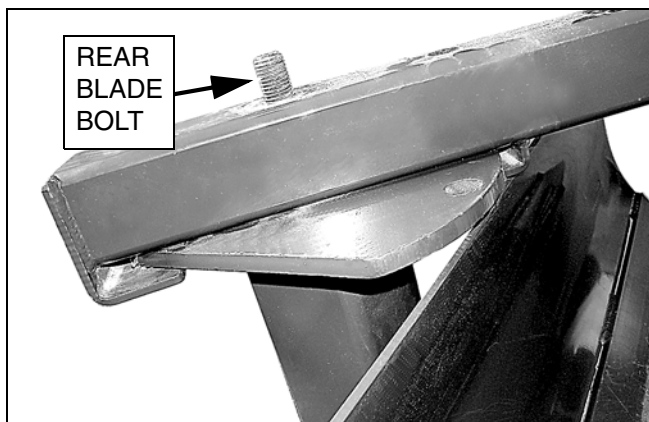

Figure 13. Slide Hitch onto Bolt Atop Rear Blade
1. Rotate hitch to its upright position and slide back onto the bolt on top of blade as shown in Figure 13.